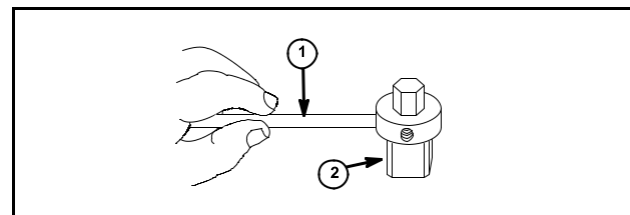

Fig. 9
1. Place square end of Tool #19409 (2) into center of pulley hub as shown in Fig. 9. Rod (1).